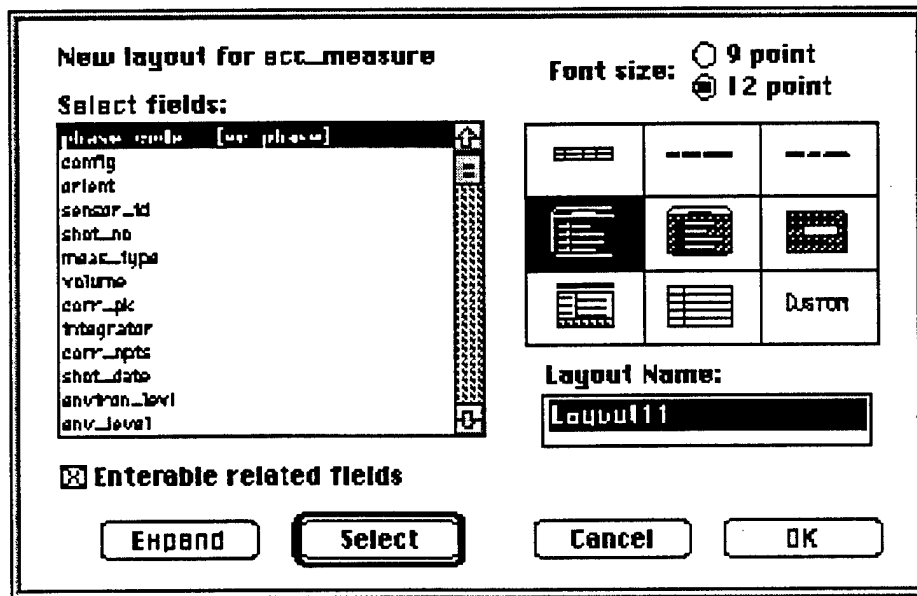

Figure 3.20: Selection of fields to include in ecc\_measure dialog
4. Another window, similar to the one shown in Figure 3.20 will be displayed. This dialog box allows you to create a new layout, and provides a list of the fields and files in the database. Any field from any file can be displayed in a layout. Different ways of viewing the data can be selected from the right side of the display, and the font size can also be changed. The top row of layouts is generally considered appropriate for output (display purposes, as opposed to input, where you enter new data).